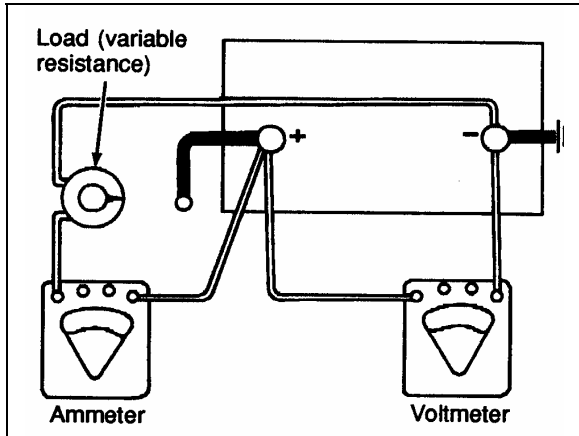

FIGURE 15: LOAD TEST 06064
1. Connect a voltmeter, ammeter, and a variable load resistance as illustrated in figure 15.